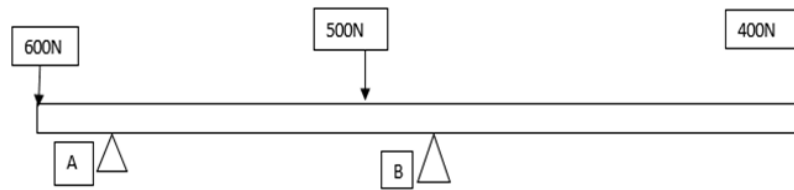

Figure 2
- A horizontal beam shown in Figure 2 below, is 4 meters in length and is supported at points A and B, spaced 2 meters apart. Support A is 0.5 meters from the left end. The beam bears three downward point loads: 600 N at the